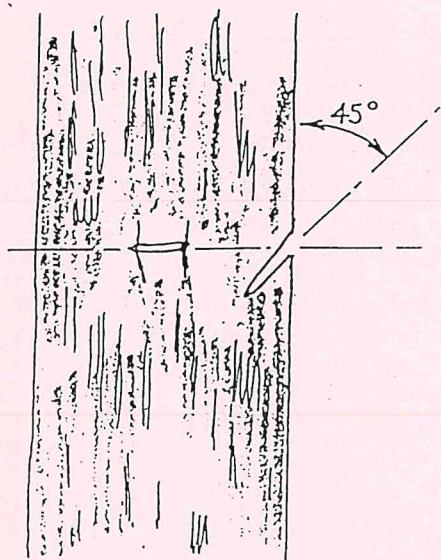

Figure 4
- Holding the axe in the preferred hand (ie: right hand if right handed or left hand if left handed), drive the axe into the tree at waist height. The cut must be level and at an angle of 45° to the tree. The axe must penetrate the sap wood (See Figures 4 and 5).